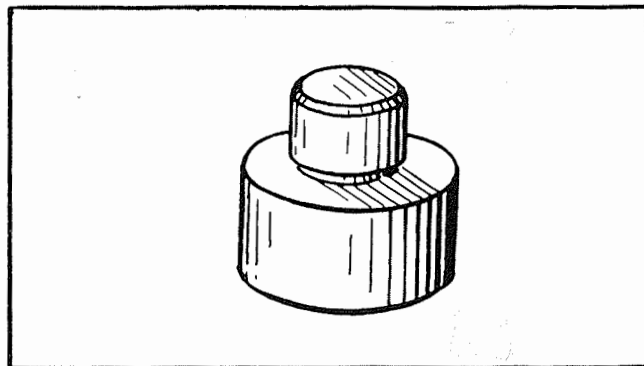

Figure 7-84. Fuel Pump Drive Shaft Oil Seal Installing Plug
- a. Install a new oil seal in the support, using plug 805270 (figure 7-84). The seal should be a .001 - .006 inch tight fit in the support.